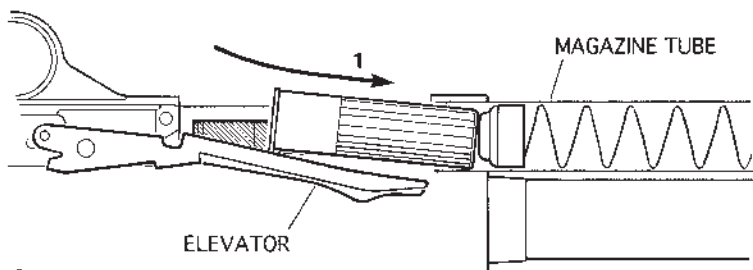

Figure 6
1. Carefully push the round into the loading port, depressing the elevator (Figure 6). This will expose the magazine tube opening within the receiver.